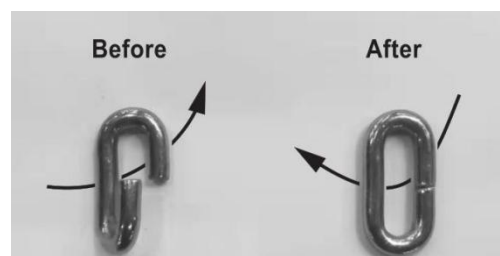

Figure 10
7. Using an adjustable wrench, twist the link horizontally until the link is in the original closed position. See Figure 10.